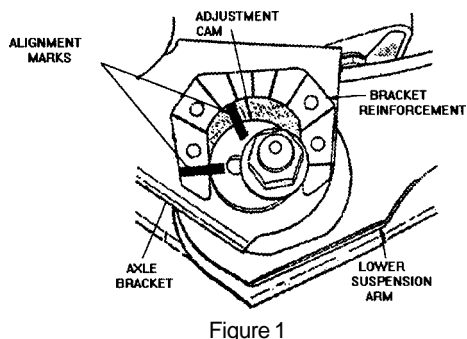

Figure 1
- a. Paint or scribe alignment marks on the cam adjuster and axle bracket as shown in figure 1.